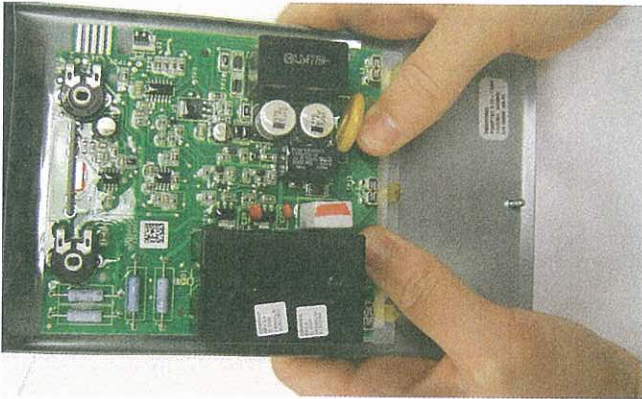

Figure 16
11. Using thumbs, press firmly down on the ALARM 1 and ALARM 2 terminals, sliding terminals on the blades of the terminal strip (Figure 16).